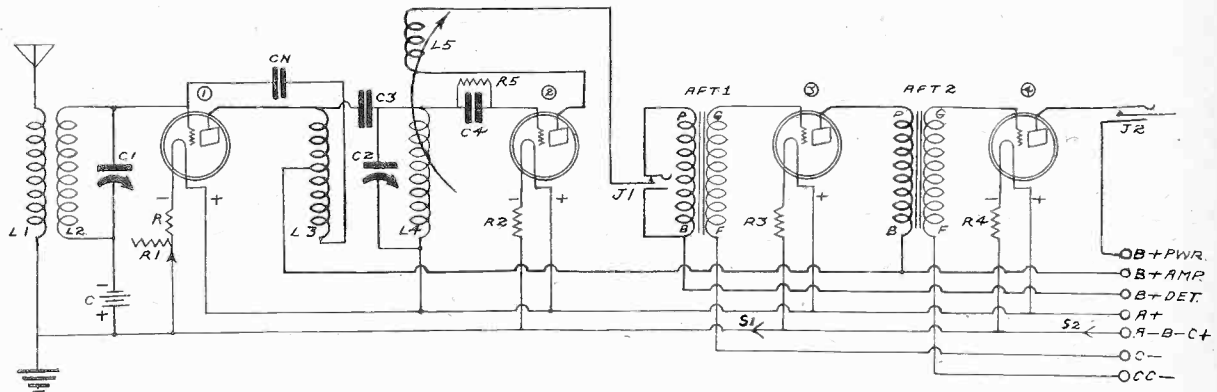

FIG. 1
**A**N easy tuning, distance getting, selective, voluminous and quality receiver is diagrammatically represented in Fig. 1. It employs a stage of tuned, neutralized radio frequency amplification, capacitatively coupled to a regenerative detector, these followed by two stages of transformer coupled audio frequency amplification.